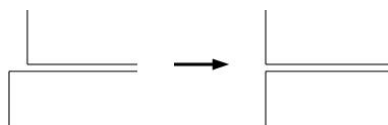

Figure 26.3.1: Aligning Nearly-Aligned Faces
- Aligning faces that are nearly aligned (see Figure 26.3.1) will generally reduce the overall mesh size and result in better convergence (due to the improved aspect ratio of the elements). You can align faces by modifying the coordinates of the appropriate object(s), or by using the alignment tools (see Section 2.1.3).
- Aligning faces that are nearly aligned (see Figure 26.3.1) will generally reduce the overall mesh size and result in better convergence (due to the low aspect ratio of the elements). You can align faces by modifying the coordinates of the appropriate object(s).